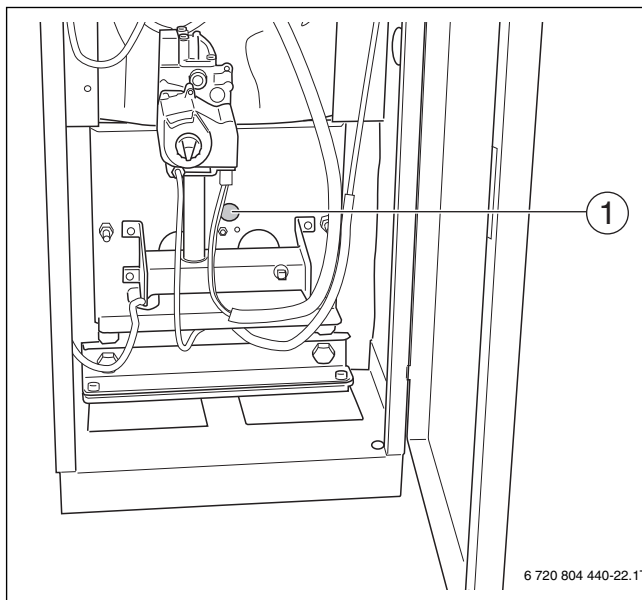
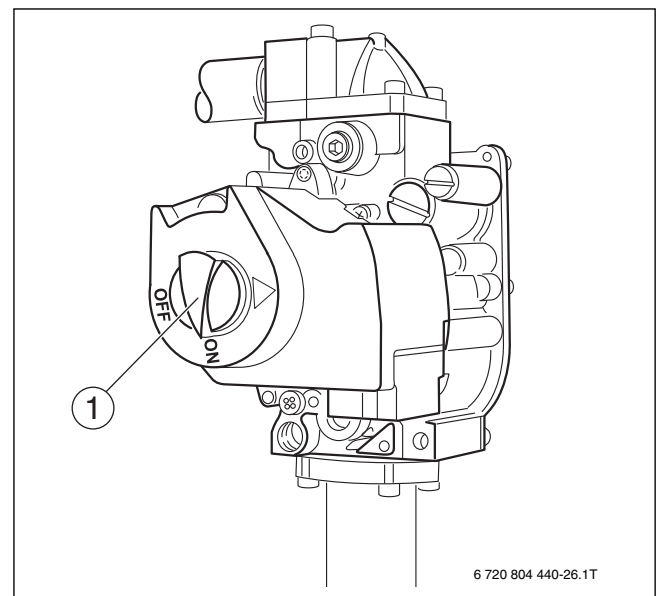

Fig. 22 GC 144 II
Fig. 26 Gas valve
- Observe main burner flame through the sight glass (→ figure 22, page 16) in the burner plate. The flame must show a steady and stable body and generally be of bluish color. If the main burner flame meets the requirements, proceed to the next step. If the main burner flame is weak, yellow, or goes out, turn the ON/OFF knob (→ figure 26) on the gas valve clockwise to OFF. Close the gas shut-off and disconnect the heating system from the main power source and contact the customer service technician or the gas company.